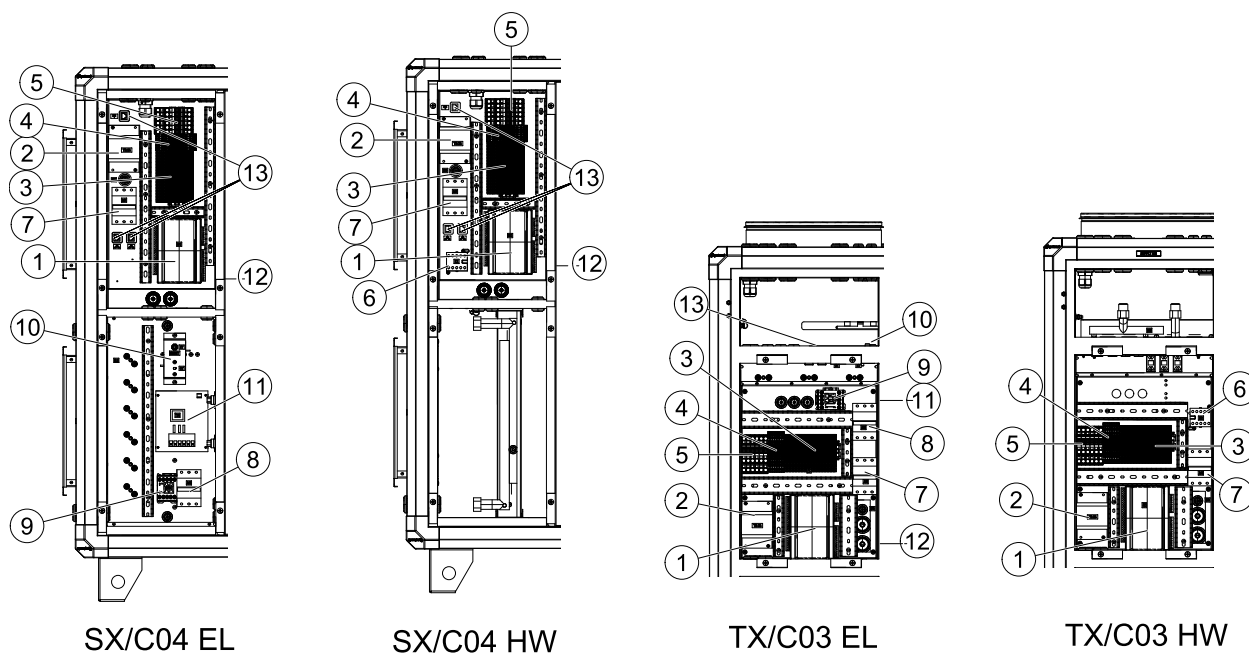

Fig. 2
A switch module with HMI and 2 TCP/IP connections is mounted in the heat recovery units. Connection is made through the panel outlet in the air handling unit (see figure 2).
In units with built in electrical heater the heating rods are located after the supply air fan in the airflow direction. The material is stainless steel. The electrical heating battery has both automatic and manual overheating protection. The manual overheat protection is reset by pushing the red button on top of the electrical heater frame (pos. 10 figure 2). The power demand of the electric heating coil is controlled by the main regulator, which controls the heat steplessly by a TTC triac control according to the selected control function that is set in the control panel.
- Check that the fuses are not defect (figure 2)
- Check if the overheating thermostat has tripped. If necessary press the red button, on the electrical heater (figure 2).